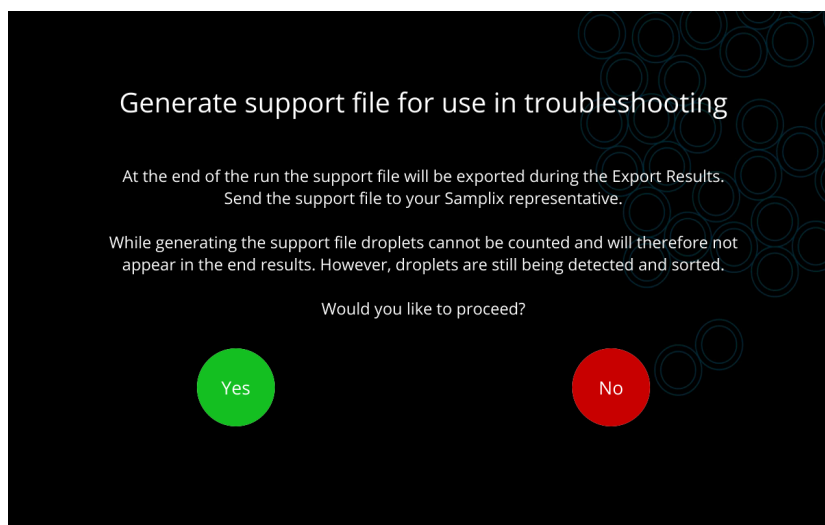

Fig. 3.15. The screen stating that during support file generation droplets cannot be counted and will not appear in the end results.
3. A warning message will appear stating that during support file generation sorted droplets are not counted. Press Yes to continue (Fig. 3.15).